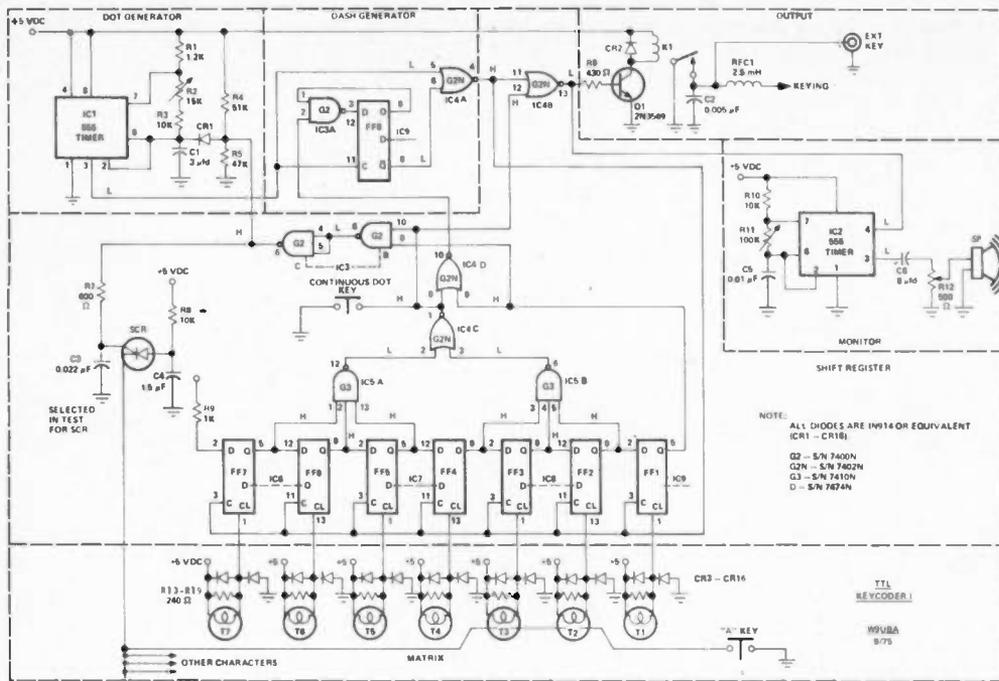

Fig. 3. Schematic.
theory discussion will take you on a tour of the TTL-version schematic diagram (Fig. 3). For convenience of discussion, the schematic is separated by dashed lines into the following six areas representing functional blocks: (1) dot generator, (2) dash generator, (3) shift register, (4) encoding matrix, (5) monitor, and (6) output stage. The discussion that follows will be so divided also, with some necessary overlapping. On the schematic diagram, the logic state H ("1") or L ("0") is shown for the output of each IC. These states are for static conditions, when no character is being generated.
As shown in Fig. 3, the shift register portion of the schematic consists of "D" type flip flops FF1 through FF7, two sections of a triple 3-input NAND gate (the third section isn't used), the remaining two NOR gate sections of IC4, and two gates of a quadruple 2-input NAND gate IC (the fourth section isn't used). In this mechanization, the 3-input NAND gates serve an OR function, one
Fig. 3 does not show the power supply, since the keyer's power requirements are reasonably uncritical and the builder will probably wish to fabricate his supply with whatever parts he has available. The Keycoder draws